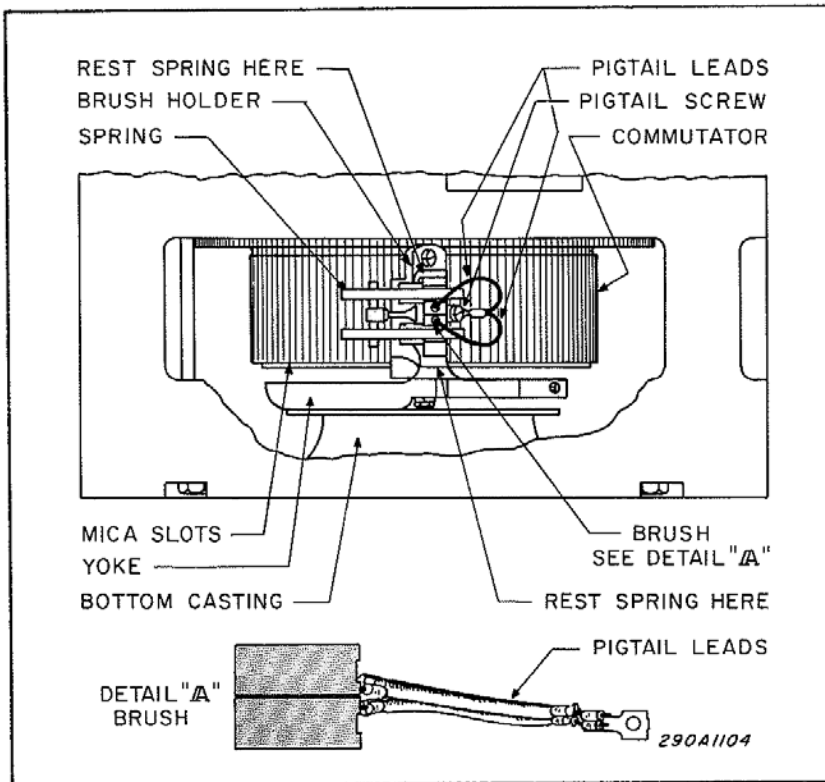

Figure 5-1. Single Phase Motor Brush Replacement.
Note: See figure 5-1 while performing steps 3 through 10 of this procedure.
4. Carefully lift the springs away from the two-segment brush and allow each spring to rest on the brush holder next to the brushes, as indicated in figure 5-1.
8. Install the replacement brushes and springs in the brush holder making sure that the pigtail leads are next to each other as shown in detail "A" of figure 5-1.